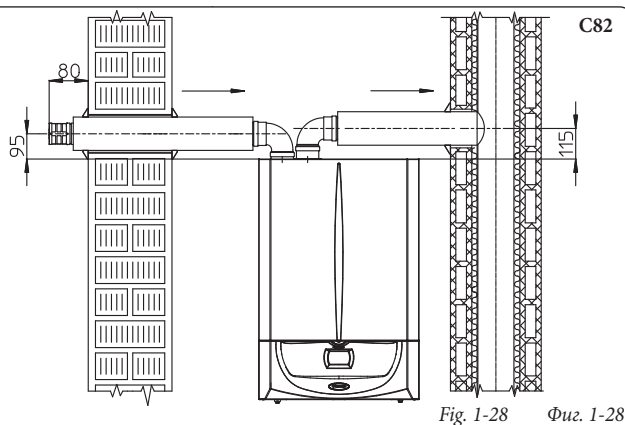

Fig. 1-28 Фиг. 1-28
- N°1 - Female intake flange (3)
- N°1 - Female exhaust flange (4)
- N°1 - Anti-pulse sheet (5)
- N°1 - Bend 90° Ø 80 (6)
- N°1 - Pipe closure cap (7)
- N°1 - Insulated exhaust terminal Ø 80 (8)
- N°2 - Internal white rings (9)
- N°1 - External grey ring (10)
- N°1 - Insulated exhaust pipe Ø 80 (11)
- N°1 - Concentric bend 90° Ø 80/125 (12)
Insulated separator kit. Kit assembly (Fig. 1-28): install flange (4) on the most internal hole of the boiler, fitting seal (1), and tighten with the flat-tipped hex screws included in the kit. Remove the flat flange on the lateral hole (depending on installation requirements) and replace with flange (3) inserting seal (2) already fitted on the boiler and tighten using the self-tapping screws supplied. Insert and slide cap (6) onto bend (5) from the male side (smooth), and join bends (5) with the male side (smooth) in the female side of flange (3). Fit bend (11) with the male side (smooth) in the female side of flange (4). Fit the male end (smooth) of the intake terminal (7) up to the stop on the female end of the bend (5), making sure you have already inserted the rings (8 and 9) that ensure correct installation between pipe and wall, then fix the closing cap (6) on the terminal (7). Join the exhaust pipe (10) with the male side (smooth) in the female side of the bend (11) to the end stop, ensuring that the washer (8) is already inserted for correct installation between the pipe and flue.
- Insulation of separator terminal kit. In case of problems of fume condensate in the exhaust pipes or on the outside of intake pipes, Immergas supplies insulated intake and exhaust pipes on request. Insulation may be necessary on the exhaust pipe due to excessive temperature loss of fumes during conveyance. Insulation may be necessary on the intake pipe as the air entering (if very cold) may cause the outside of the pipe to fall below the dew point of the environmental air. The figures (Fig. 1-28÷1-29) illustrate different applications of insulated pipes.